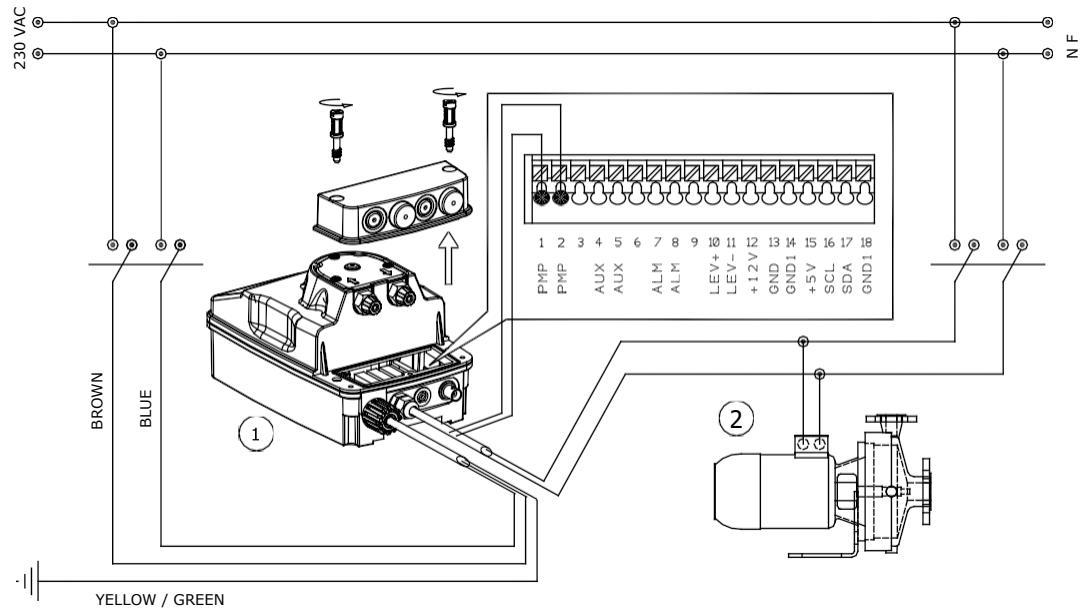
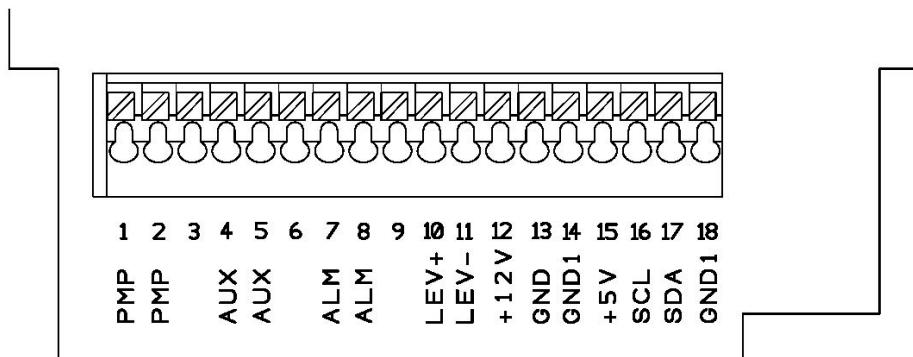

Fig. 2 – Installation and terminals
Fig. 5 – Service Connector
Carefully observe the regulations in force in the various countries as regards electrical installations (Fig.2). **When the supply cable is devoid of a plug, the equipment should be connected to the supply mains by means of a single-pole circuit breaker having a minimum distance of 3 mm between the contacts. Before accessing any of the electrical parts, make sure that all the supply circuits are open.**
In figure 5 is shown the scheme of the service connector for the connection of the various services. To the service connector is accessed by removing the protective cover as shown in fig. 2.
- **Connectors 1-2 (PMP)=** Connection for the recirculation pump. Input at 230V. (Fig.2).